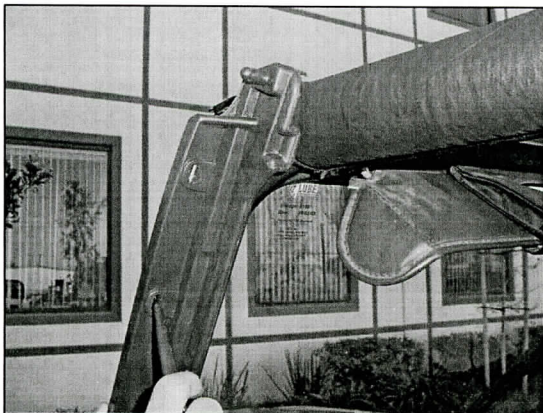

Figure 2
3. Locate Driver Upper Door Windshield Insert and position it on the side of the windshield. With Upper Door Windshield Insert in position mark the vehicle through the holes (Figure 2).